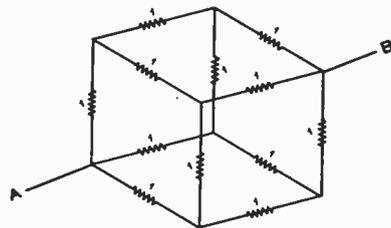

Fig. 1
pleasing the eye and giving greater perspective is to make the spacing between the horizontal brace equal to the length of the upper horizontal member. Referring to Fig. 1 it can be seen that  $AB = CD$ ,  $EF = GC$ ,  $HI = JG$ , etc., up to the top of the tower. Draw these horizontal braces into the outline of the side. Then draw-in the cross-bracings.
**P**ROBLEM No. 1 of "Techquiz" is illustrated in the drafting, Fig. 1. It is a relatively simple problem, if you know your *Ohm's Law*. The idea is to determine the actual resistance at points A and B, mathematically—and not by measurement. It would be simple for anyone to assemble a resistor cube of the type shown in Fig. 1 and then measure the resistance with the aid of resistor-box, but the editor of this department has carefully guarded against such procedure by specifying a cube of resistors of one ohm each. You can't measure the resistance at points A and B, unless you have in your possession a very expensive set of laboratory instruments. That's the purpose of this new department—*mathematics!* These "trick problems" will give you a thorough understanding of the application of *Ohm's Law*, and soon you will have in your hands an extensive group of notes to paste into your notebook.
There are 12 resistors in the cube of Fig. 1. Each resistor, as stated previously, has a value of one ohm. Trace the connections through the cube, and calculate the resistance from points A and B. Then send your answer to the editor, so it can be published in our next issue. We'd like to know how many readers of A. R. D. can find the correct solution, and your answers, *together with your mathematical calculations*, will be published. Explain your solution—step by step.